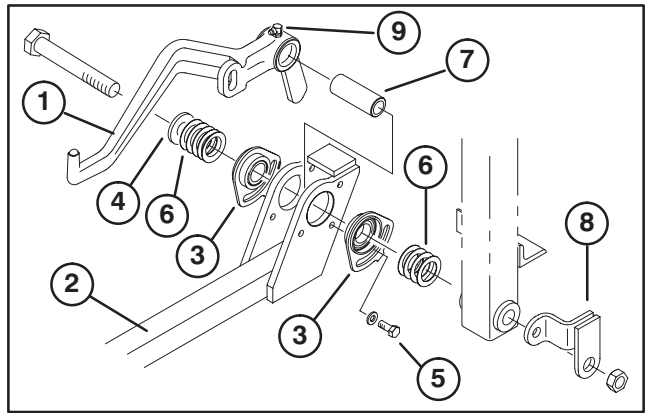

Figure 7
4. Install a grease fitting into top of each lift arm (Fig. 7). Position fittings forward to ease lubrication.
5. Secure an eccentric bushing to each side of center carrier frame with a capscrew and flatwasher. Position bushings as shown in figure 7.
6. While positioning a flatwasher and (5) thrust washers on right side of carrier frame and (4) thrust washers on left side of carrier frame, secure center lift arm, carrier frame and adjusting rod bracket to traction unit frame with a 5/8–11 x 6–1/2" lg. capscrew, spacer and nut (Fig. 7).